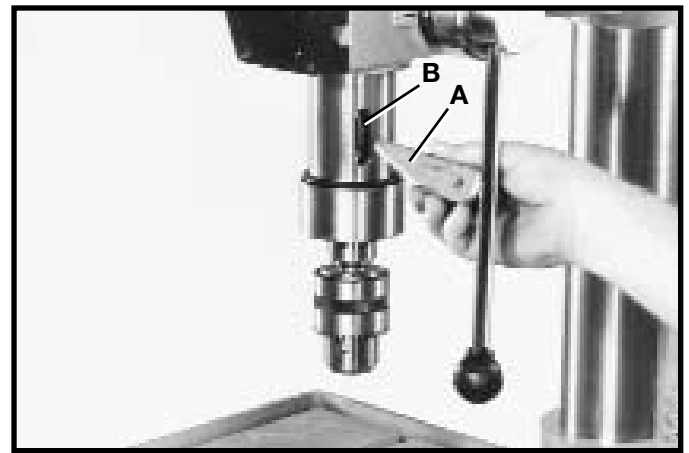

Fig. 31
If you desire to remove the chuck and spindle adapter, lower spindle and rotate chuck until the slot in the spindle lines up with the slot in the quill, as shown in Fig. 31. Then insert tapered end of drift bar (A) into slot (B) in quill and remove chuck and spindle adapter.